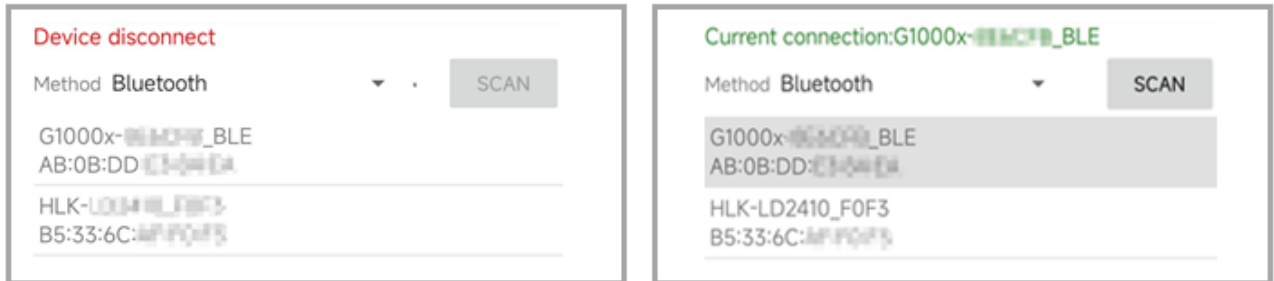

Figure 4-3 Bluetooth scan results and successful connection
- (1) Power on the G1000.
- (2) On your mobile device, open the Anypos App.
(3) Navigate to the Device page and tap Device connect module .
- (4) Set the Connection method to Bluetooth and press Scan.
- (5) The G1000 will appear as **G1000x-XXXXXX_BLE**. Select it and tap Connect, see Figure 4-3.
- (6) Once connected, the page header will turn **green**, confirming successful pairing, see Figure 4-3.